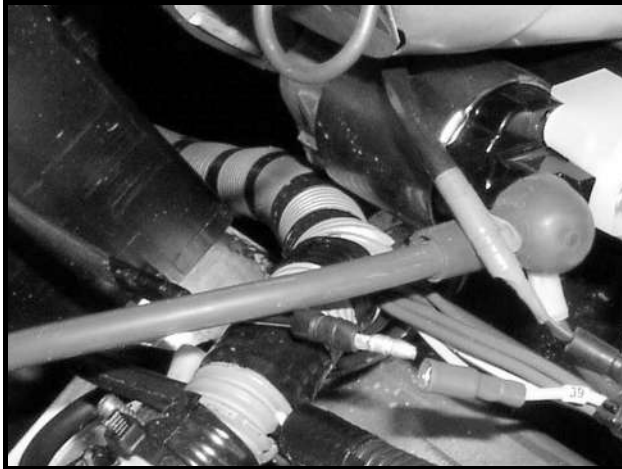

Figure 12a-3 Carburetor Coil Bullet Connector
4. Disconnect the 18-gauge yellow wire (w39) from the carburetor solenoid bullet connector (**Figure 12a-3, Page 12a-3**).
3. Connect the 18-gauge yellow wire (w39) from the carburetor solenoid to the wire harness (**Figure 12a-3, Page 12a-3**).